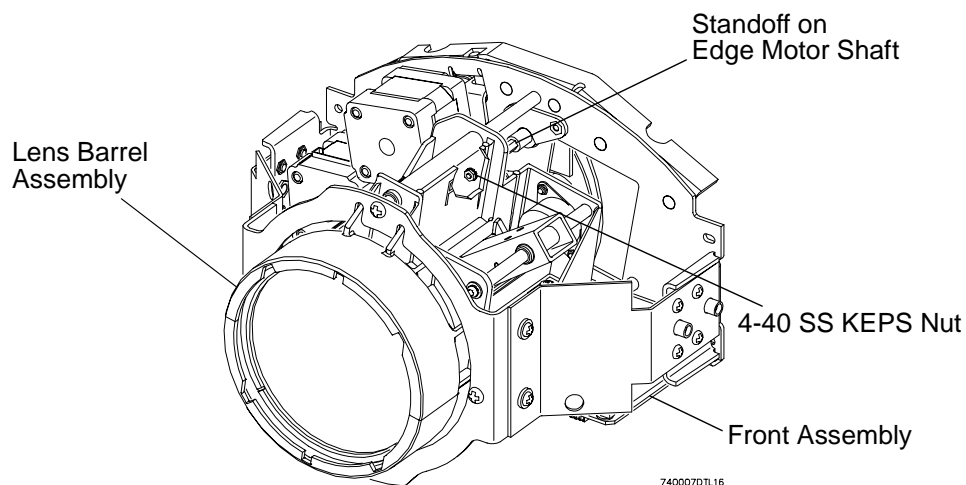

Figure 2-11: Removing Nut From Edge Motor Assembly Shaft
- Step 4. At lens barrel assembly, use pliers to hold standoff on edge motor shaft, and using 1/4" open-ended wrench, remove 4-40 SS KEPS nut from end of motor shaft. Figure 2-11.